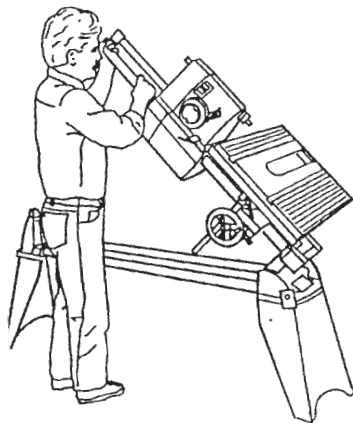

Figure B-46
- Tighten the headstock and carriage locks. Place the Mark V in the vertical position by loosening the headrest handle, firmly grasping the way tubes near the headrest end, and lifting the tubes into the 90° position, as demonstrated in Figure B-46.